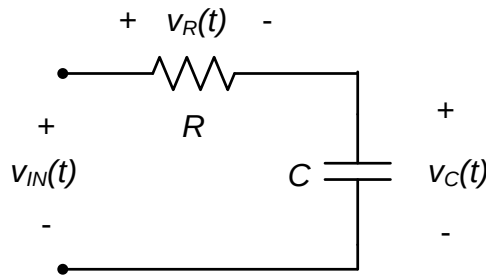

Figure 1. RC circuit.
This lab assignment concerns the circuit shown in Fig. 1. We will measure the response of both the voltages  $v_R(t)$  and  $v_C(t)$  to the input voltage  $v_{IN}(t)$  and plot the frequency response – both magnitude and phase – of both voltages. Obviously, since we are interested in the frequency response of the circuit, the input voltage will consist of sinusoids.
Determine the frequency responses of both  $v_C(t)$  and  $v_R(t)$  in the circuit shown in Fig. 1, as a function of  $R$  and  $C$ . Use the voltage  $v_{IN}(t)$  as the input in both cases9. Calculate the cutoff frequency of the circuit (both outputs share the same cutoff frequency). Also calculate the DC gain and high frequency gain of both outputs.
Sketch the magnitude and phase responses of both outputs in the circuit of Fig. 1. Label your sketches with the DC gain, high frequency gain, and cutoff frequency.
- a. Construct the circuit of Fig. 1, using  $R=2.2\text{k}\Omega$  and  $C = 4.7\text{nF}$